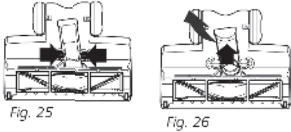

Fig. 25
- 2 Squeeze tabs together and pull up to expose the airway. (Fig. 25, Fig. 26)